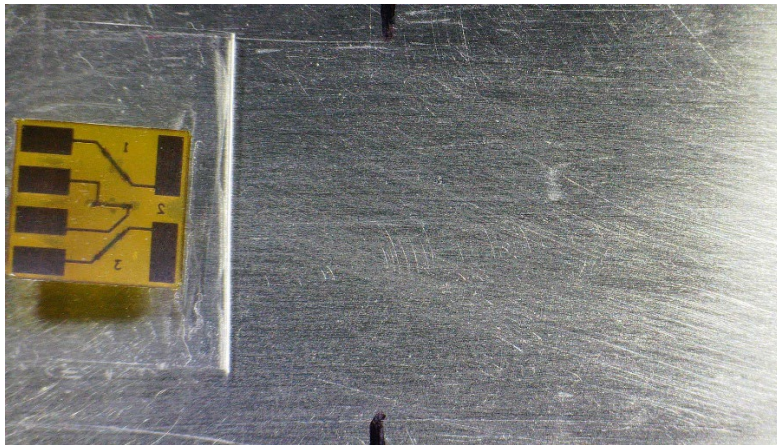

Figure B2 – Rolling back tape to expose back of rosette.
- B.9 Center the rosette over the reference marks on the structure and tape one end of the tape to the structure to within 3 mm (1/8 inch) of the rosette's edge. Roll the free end of the tape backwards towards the point where the first end was taped down and tack it down on the structure. The bottom of the rosette will be facing upwards and outwards. See Figure B2.